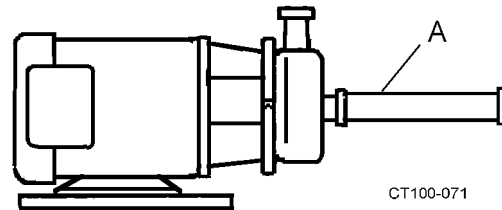

Figure 14 - Straight Pipe Length
- Maintain a straight length of pipe (Figure 14, item A) at least 8 diameters long at the pump inlet.
- The pump casing may be rotated with the discharge connection pointing in any direction. The best pump performance will be with the outlet up, to the left or positions in between; these positions insure a flooded casing and prevent problems due to air in the system. (Figure 14).